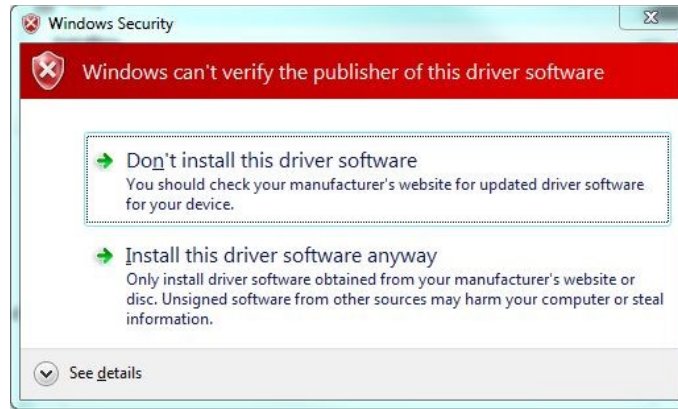

Figure 44 Hardware wizard. Install driver software anyway
6. If the **Windows Security** window appears, select **Install this driver software anyway**, see *Figure 44*.